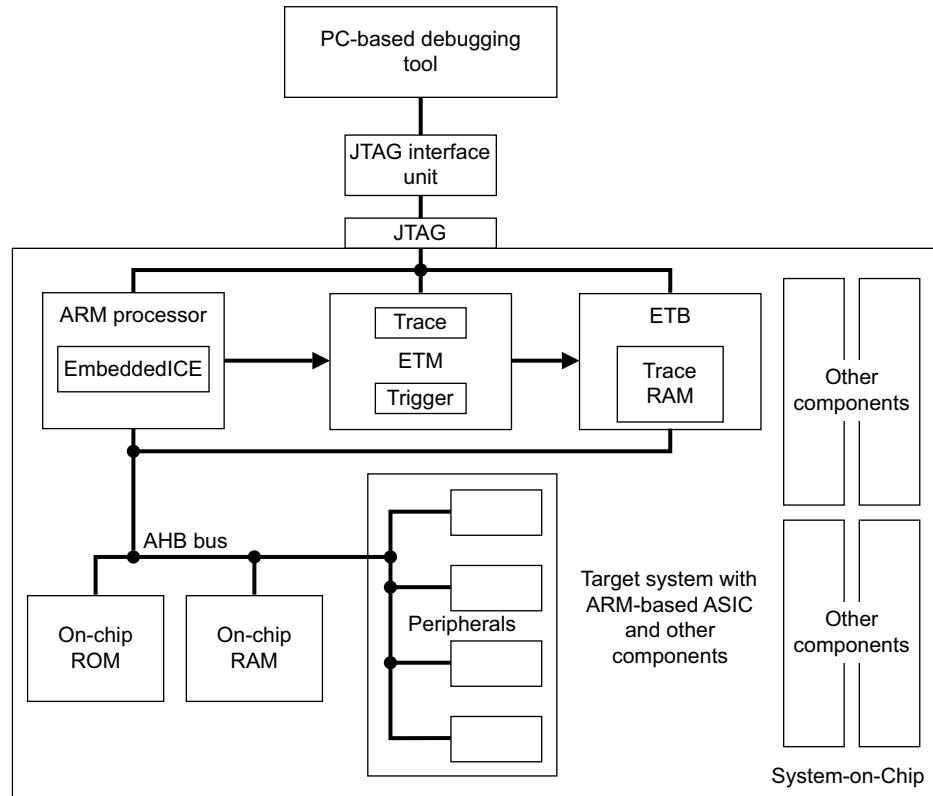

Figure 1-2 Example debugging environment with ETB
- Writes it directly to an on-chip *Embedded Trace Buffer* (ETB). The trace is read out at low speed using the JTAG interface when the trace capture is complete as Figure 1-2 on page 1-18 shows.
Figure 1-2 on page 1-18 shows how the ETM is used in a complete debug environment. The JTAG interface is also used for other debugging functions, such as downloading code and single-stepping through the program.